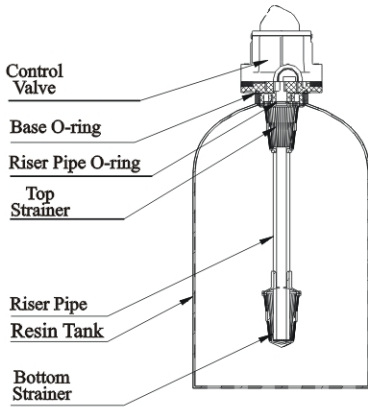

Figure 1-1
- ①The filter should be located close to drain.
- ②Ensure the unit is installed in enough space for operating and maintenance.
- ③ The unit should be kept away the heater, and not be exposed outdoor. Sunshine or rain will cause the system damage.
- ④ Do not install the filter , drain pipeline in circumstance which temperature may drop below 5°C, or above 50°C.
- ⑤One place is recommended to install the system which cause the minimum loss in case of water leaking.
- ①Install control valve
- a. As the Figure 1-1 shows, select the riser pipe with 26.7mm OD, glue the riser pipe to the bottom strainer and put it into the mineral tank, cut off the exceeding tube out of tank top opening. Plug the riser tube in case of mineral entering.